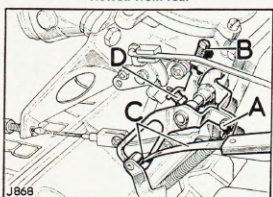

Fig. 9 Throttle lever setting, left hand viewed from rear
6. Place a .006 in. (0.15 mm) feeler gauge (C) Fig. 9, between the lower side of the throttle roller and counter shaft lever on the left-